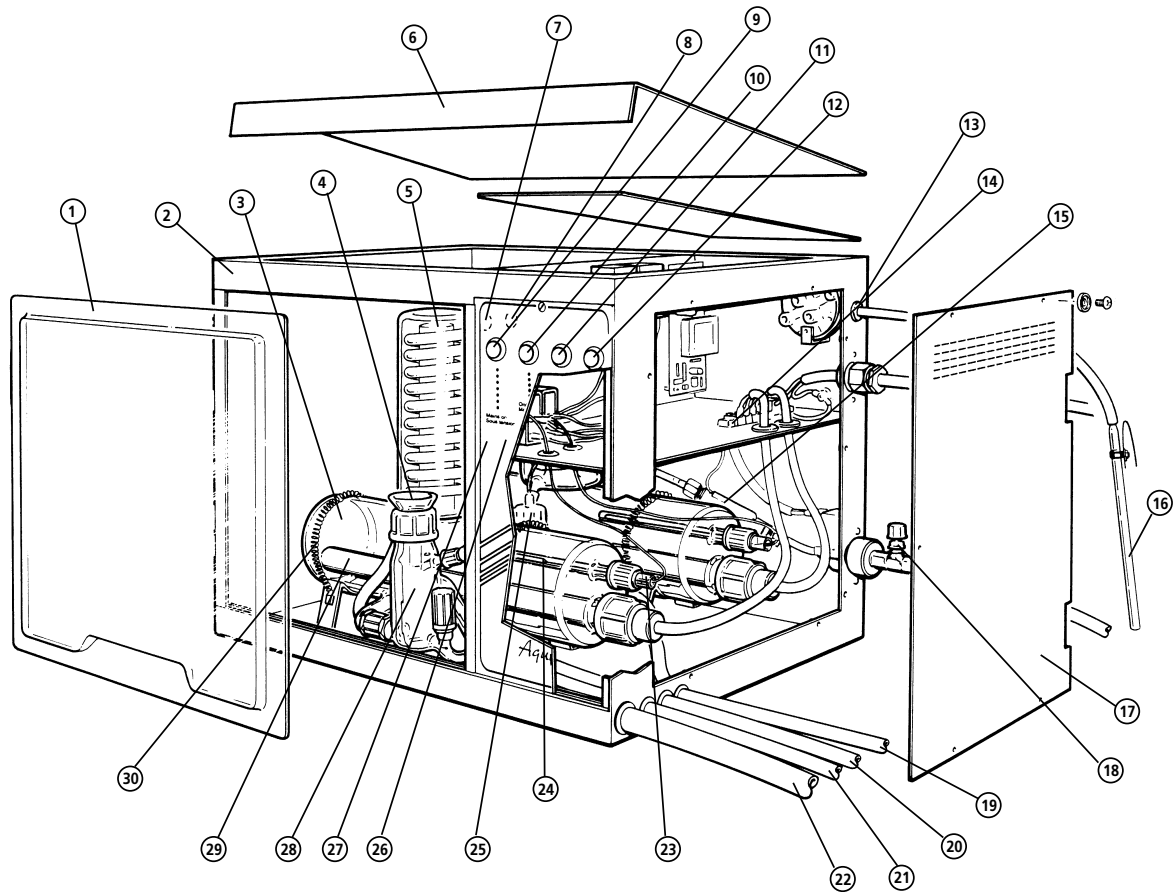

Fig 7: Major component parts A4000D
Your Aquatron A4000D has been designed with ease of assembly specifically in mind, but before commencing assembly please study the illustration, fig. 7 on page 10 to familiarise yourself with the general layout. During assembly, follow the sequence of instructions and do not connect the mains electricity supply until directed.
- 3 Remove the perspex viewing screen, item 1 fig. 7 by using the finger recess to lift the screen out of the lower cabinet groove, then remove the internal packing which has protected the glass boilers during transit. Also sever the temporary ties holding the boiler retaining springs, item 30, in place.
- 4 Remove the cabinet end plate, item 17 by unscrewing the six retaining screws and 'shake proof washers'. Similarly, unscrew the six countersunk screws to remove the cabinet roof.
- 5 Withdraw the metal thermostat probe, fig. 7. item 24, from the glass tube inside the front boiler.
- 6 Remove the front boiler from the cabinet by releasing the retaining springs, item 30.
- 8 Select one of the 1metre lengths of 9mm vinyl tubing and connect to the upper distillate outlet tube of the condenser. Secure with tie strap. Pass the free end of the vinyl tubing through hole, item 19 in the cabinet side.
- 9 Take the Level Control, W4L2A, item 25 and the other metre length of 9mm tubing. Connect the tubing to the lower drain outlet of the W4L2A and secure with tie strap. Feed the free end of the tubing through the opening, item 20 in the side of the cabinet.
- 11 Using the plastic coupling and rubber sleeve, item 28, couple the W4L2A to the boiler connection arm. Ensure that the Rotaflo Stopcock on the W4L2A is closed.
- 12 Connect the 4 pin DIN plug from the float switch of the W4L2A to the DIN socket, item 8, fig.7, situated inside the main chamber of the cabinet.
- 17 Take the one metre length of 16mm tubing and insert through the hole, item 22 in the cabinet side. The tubing should extend approximately 250mm into the cabinet, roughly level with the outlet of the condenser.
- 18 Identify the front boiler level control WL48, item 27, fig.7, and connect the outlet to the tubing. Secure with a tie strap. Ensure that the Rotaflo Stopcock of the WL48 is closed.
- 19 Couple the WL48 to the boiler connection arm with the plastic coupling and rubber sleeve, item 28. Ensure there are no stresses from the 16mm tubing on the connection.
- 30 Connect the cold water supply to connection 18 fig. 7.